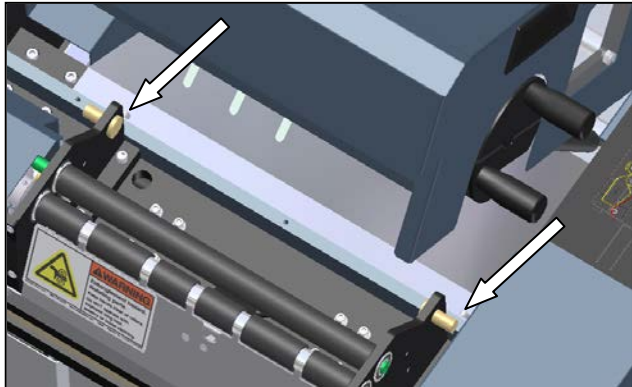
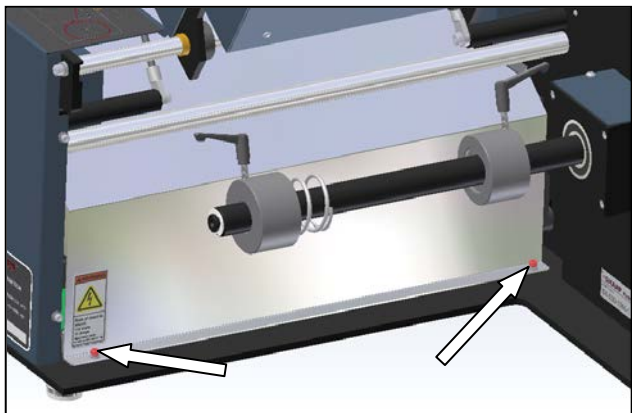

Figure 3-58. Motor Cover Front Screws
Figure 3-59. Motor Cover Rear Screws
1. Remove the two rear screws and the two front screws holding the Motor Cover. (Figure 3-58 and Figure 3-59)